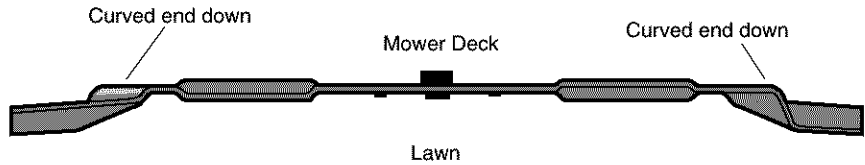

Figure 5-4: Correct blade installation.
4. Position the blade with the curved ends facing downward (Figure 5-4).